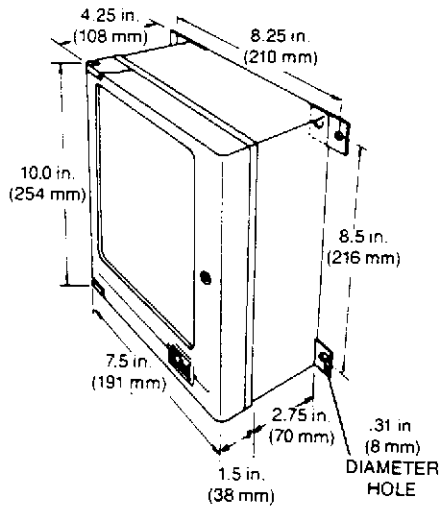

Figure 4. Surface Mount: Batch Controller Dimensions
- 2** Mark the position of the mounting holes on the mounting surface by using the dimensions in Figures 4, 5, and 6, or by holding the units level and in place.